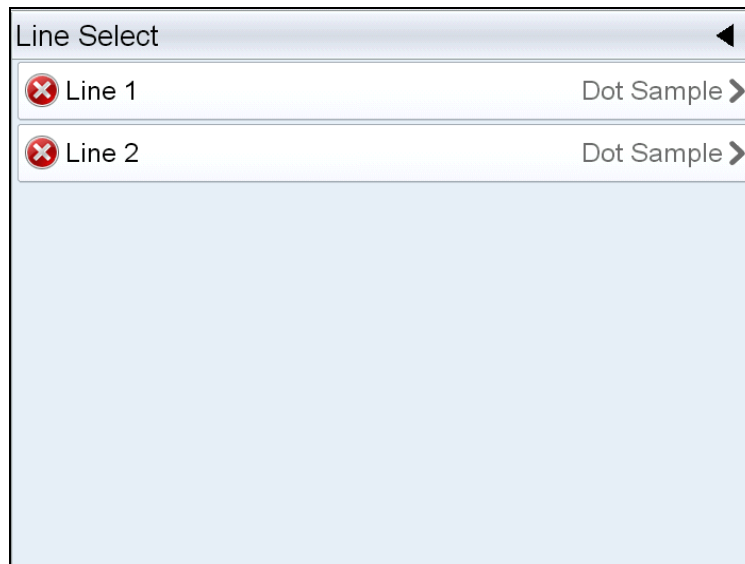

Figure 6-30: Line Select Page
- a. Touch  on the *Line Select* page (see Figure 6-30).